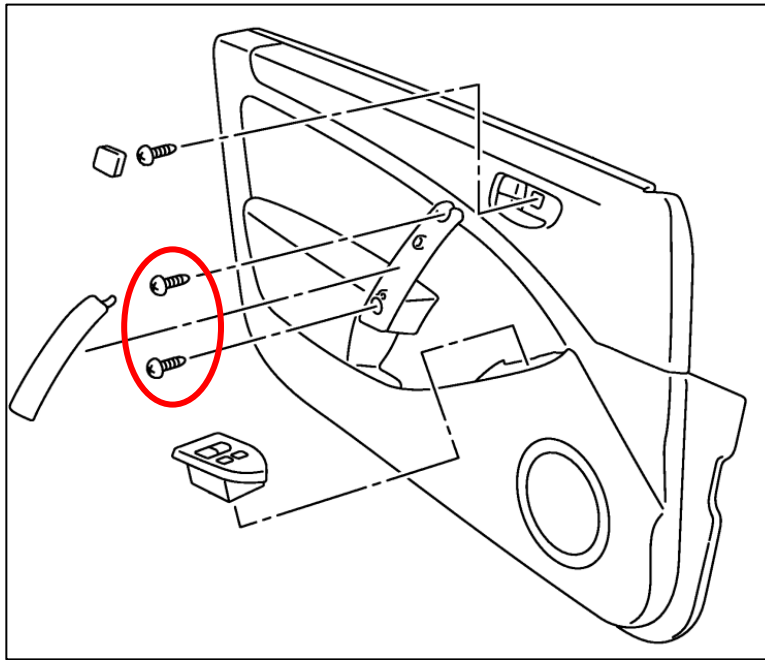

Figure 14
8. Remove the (2) two 10mm Bolts securing the Door Panel to the Door. *Figure 14.*